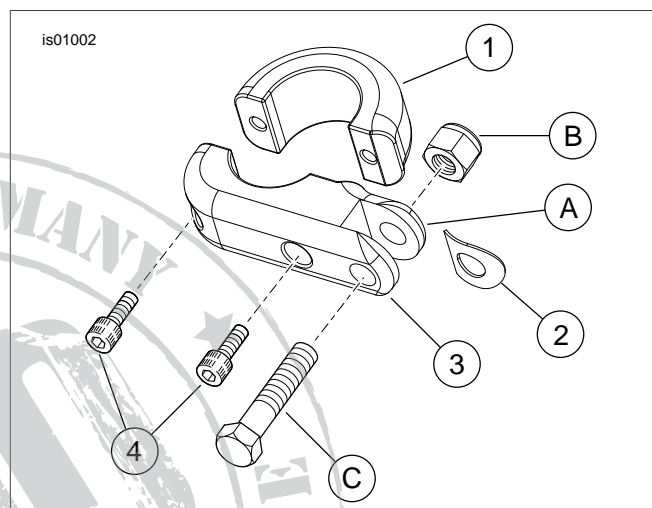

Figure 1. Service Parts: Engine-Guard Footpeg Billet Mounting Kit
See Figure 1 and Table 1.
1. See Figure 1. Position a footpeg mount (3) and clamp (1) on the engine guard. Position the footpeg mount (3) to allow the footpegs to fasten on the inboard side of the engine guard.
2. Apply LOCTITE® 243 (blue) to two screws (4).
4. Install a footpeg, sold separately, using the spring washer (2), and bolt and locknut (from kit 94133-01). Position the spring washer inside the footpeg mount with the square edge toward the inside of the mount. Tighten locknut to 19 ft-lbs (26 Nm) .